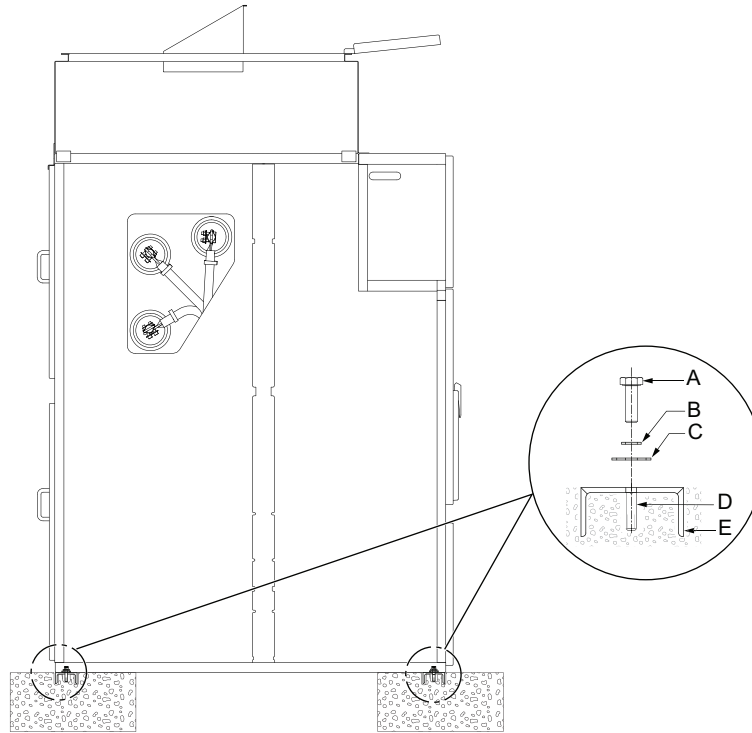

Figure 33
3. Insert dowel pin and other suitable fasteners (provided by Schneider Electric), refer to Figure 33.